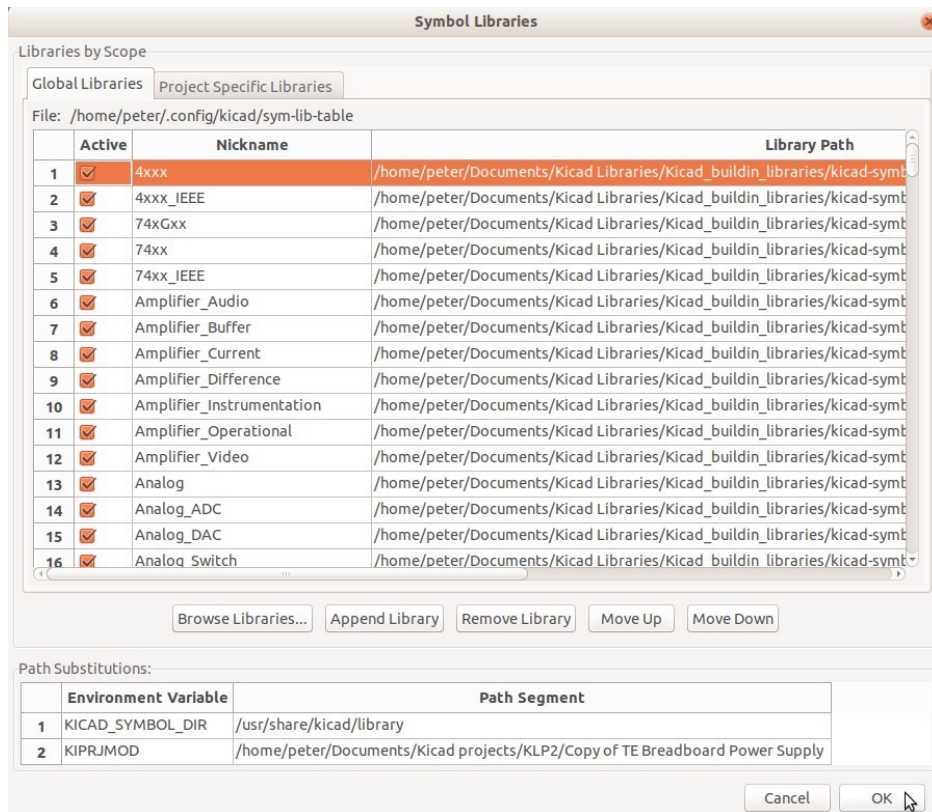

Figure 23.1: These symbols are stored locally.
10. The Symbol Libraries now contains a list of all the footprint libraries saved on your local machine, in the Local Libraries tab (Figure 23.1). This means that you can use these footprints in all your projects.